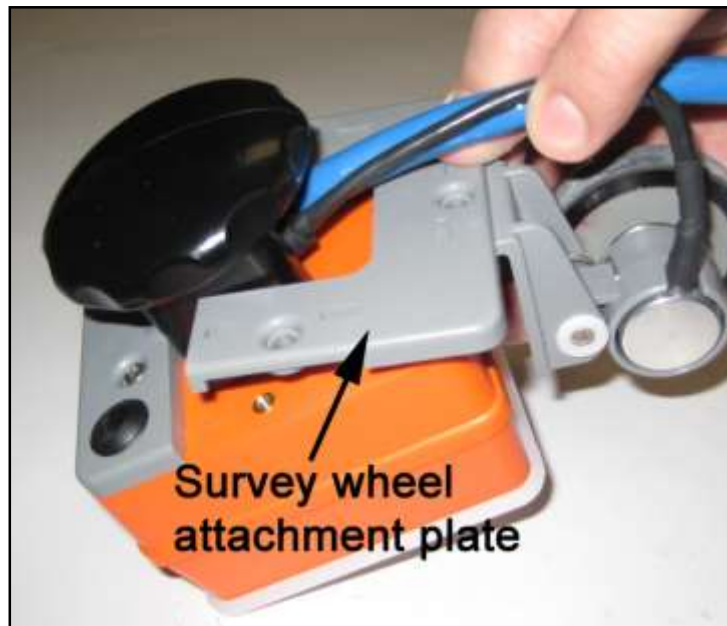

Figure 3: Remove attachment plate.
- 2 Lift the gray, plastic survey wheel attachment plate off of the antenna and set aside (Figure 3).